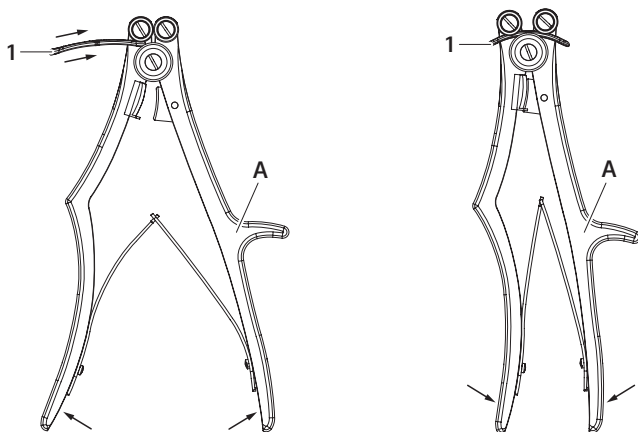

Fig. 1
- ▶ To increase the lordosis, place Quintex® plate 1 with the bending zone positioned centrally between the two upper rolls of the plate bender A, see Fig. 1.